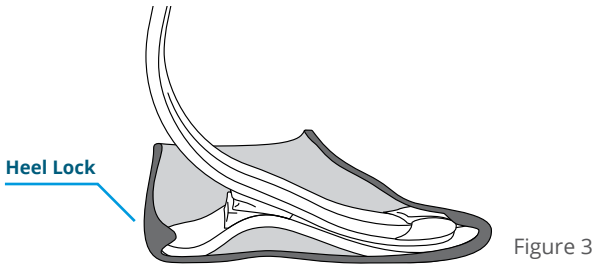

Figure 3
- Push the foot shell up onto the heel or, if necessary, insert a shoehorn into the foot shell and allow the heel to slide down a shoehorn into the heel lock. The heel must lock (Figure 3) in place for proper function and safety.